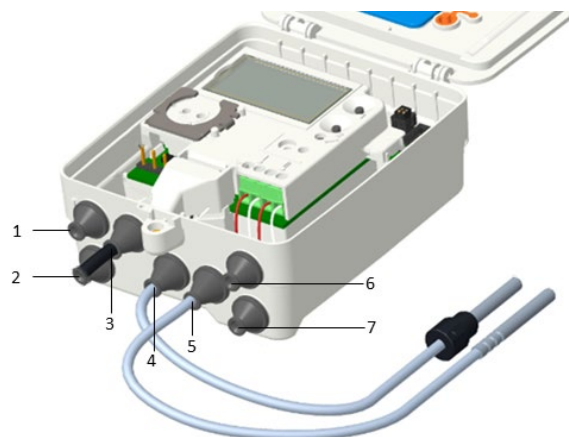
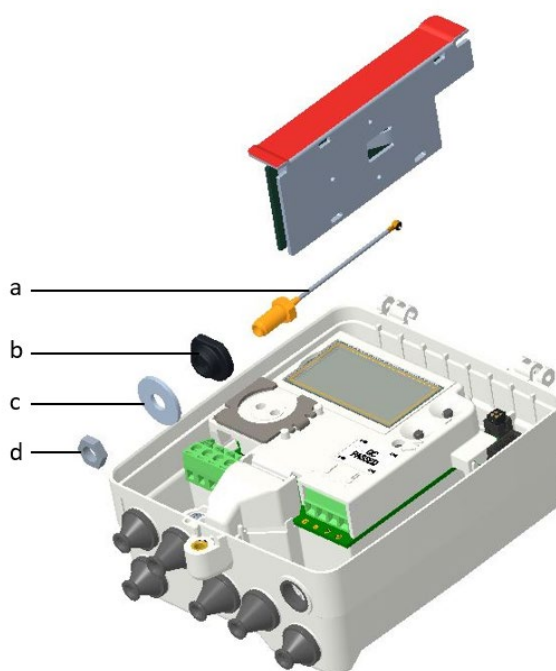

Fig. 2: Sleeves
Fig. 3: Accessories external antenna
- Cut the rubber grommet (Fig. 2; 6) flush with the meter housing.
- Remove the washer and nut from the antenna connector (Fig. 3; a).
- Put the gasket (Fig.3; b) on the antenna connector (Fig. 3; a).
- Insert the antenna connector (Fig. 3; a) from the inside to the outside through the housing opening (Fig. 2; 6).
- Insert the washer (Fig. 3; c) from the outside onto the antenna connector (Fig. 3; a) and screw it with the nut (Fig. 3; d).
- Connect the cable of the antenna connector (Fig. 3; a) to the radio module.